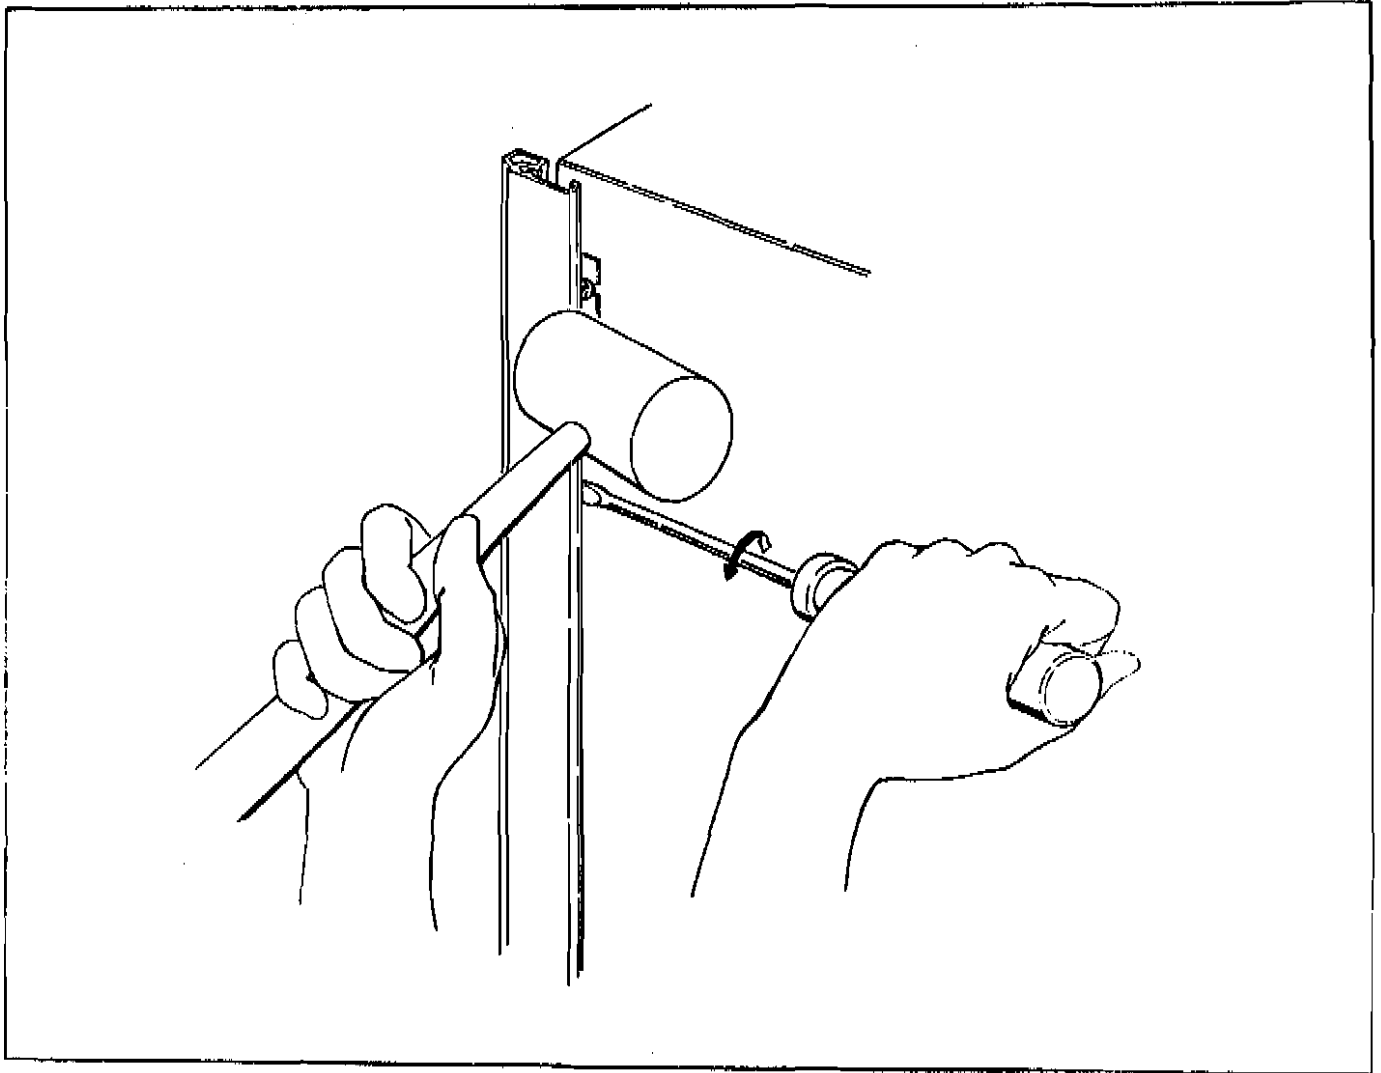

Figure 3-4. Door Side Trim Removal and Replacement
- A. To remove the door trim, see Figure 3-4 and do the below: